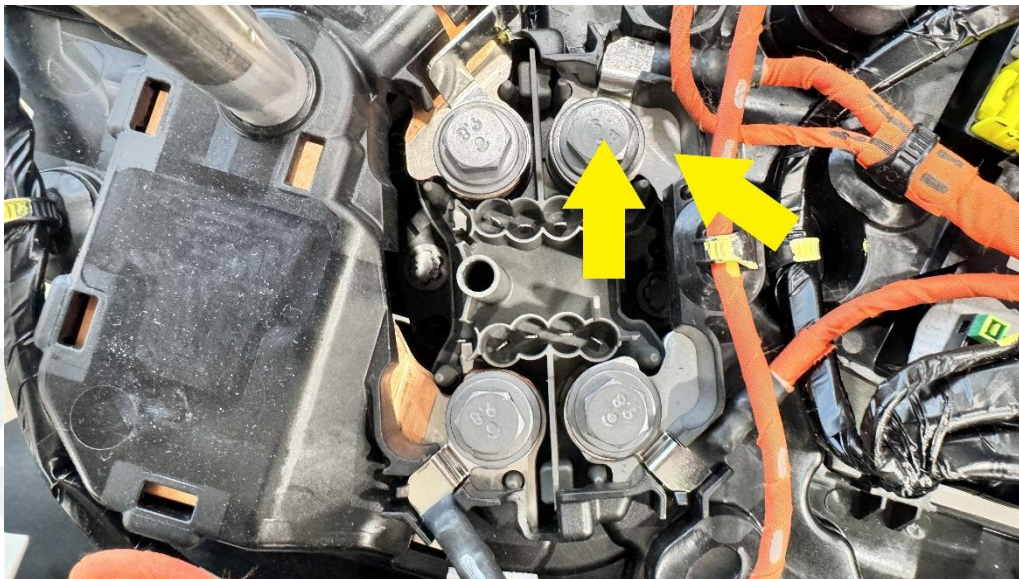

Figure 6
7. Perform a zero adjust to the Hioki meter, and then perform a Hioki impedance measurement at the FC contactor negative joint to negative DC outlet busbar (Figure 6).